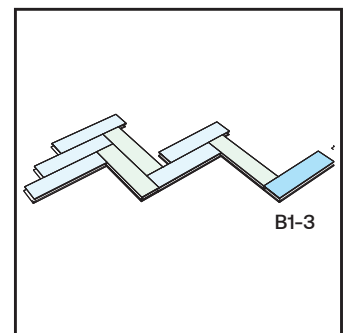

Figure 15
3. The subsequent step involves connecting the long side tongue of the next (B) panel to the short side groove of the newly installed (A) panel, utilizing an angle movement. See figure 15.